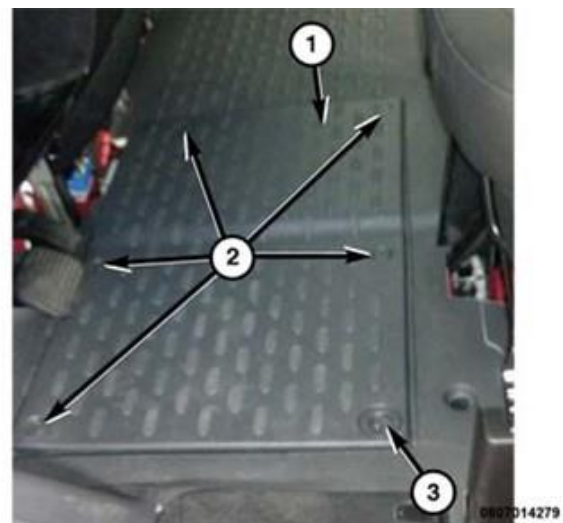

Figure 1 – Battery Cover
11. Remove the battery cover (1) by loosening fasteners (2, 3) (Figure 1).
35. Install the battery cover (1) and secure the fasteners (2, 3) (Figure 1).